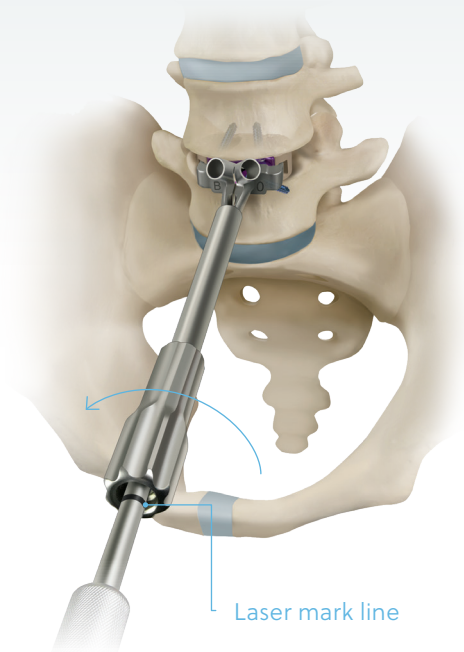

Figure 16:
- Remove drill guide B by turning the sleeve counterclockwise until the outer sleeve reaches the laser mark line (**Figure 16**).